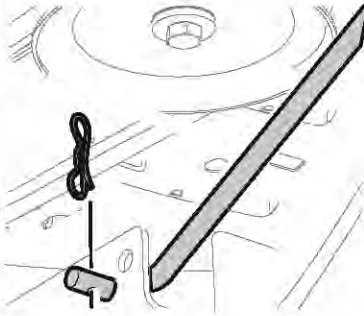

Figure 44
14. Pull the bow-tie pin out of the front deck lift rod securing it to the deck. See Figure 44. Slide the deck lift rod out of the front hanger bracket.